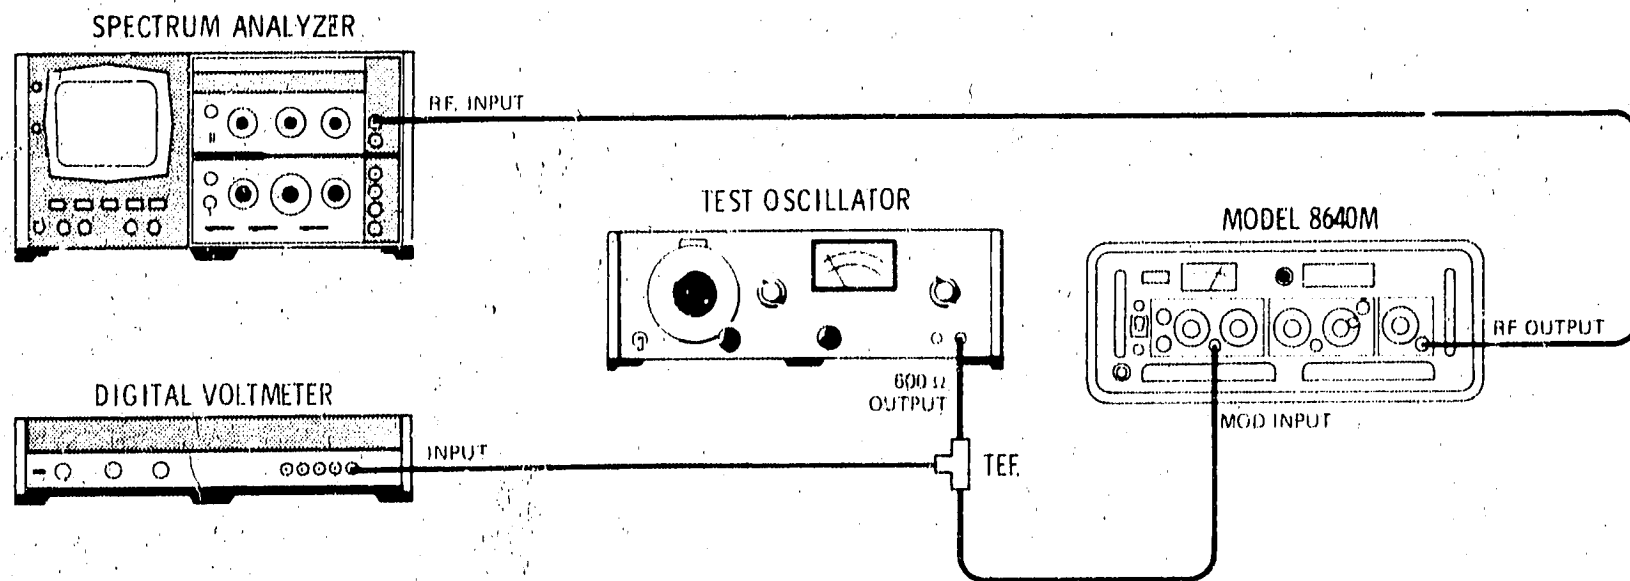

Figure 5-1. AM Sensitivity Adjustment Test Setup
1. Connect equipment as shown in Figure 5-1 after setting Signal Generator's controls as follows: